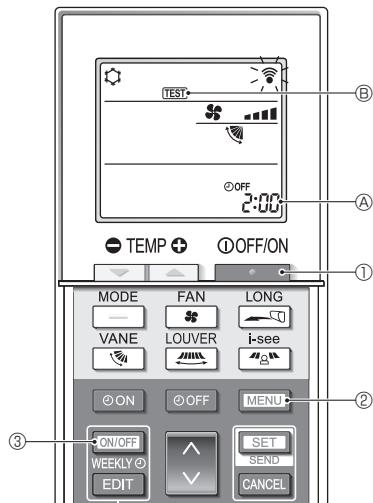

Fig. 7-5
■ Test run (Fig. 7-5)
- Press the button ① to stop the air conditioner.
- If the weekly timer is enabled (**WEEKLY** is on), press the button ③ to disable it (**WEEKLY** is off).
- Press the button ② for 5 seconds.
- Press the button ②.
- TEST** ④ comes on and the unit enters the test run mode.